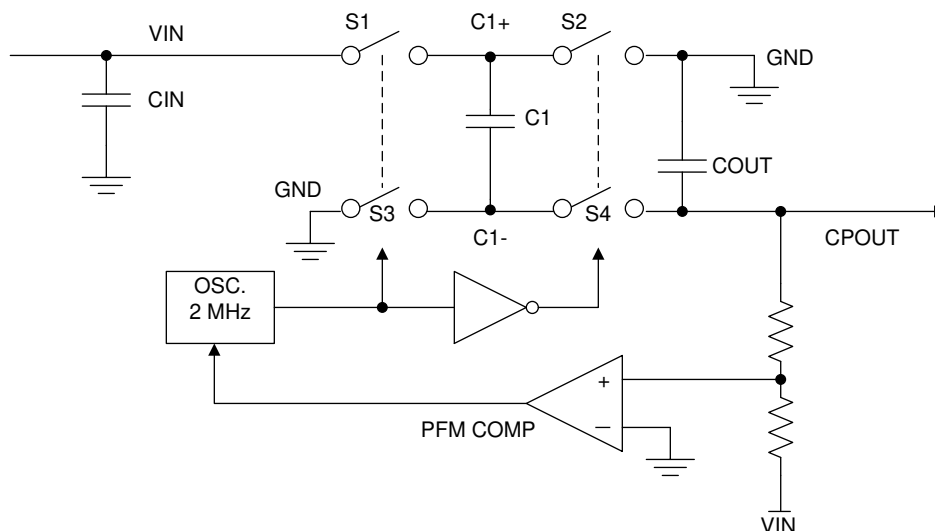

Figure 7-2. Voltage Inverting Principle
The voltage inverter portion of the LM27761 contains four large CMOS switches which are switched in sequence to invert the input supply voltage. Energy transfer and storage are provided by external capacitors. Figure 7-2 shows the voltage switches S2 and S4 are open. In the second time interval, S1 and S3 are open; at the same time, S2 and S4 are closed, and C1 is charging C3. After a number of cycles, the voltage across C3 is pumped into V_{IN} . Because the anode of C3 is connected to ground, the output at the cathode of C3 equals $-(V_{IN})$ when there is no load current. When a load is added the output voltage drop is determined by the parasitic resistance ($R_{DS(on)}$ of the MOSFET switches and the equivalent series resistance (ESR) of the capacitors) and the charge transfer loss between the capacitors.
- R_{SW} is the sum of the ON resistance of the internal MOSFET switches shown in Figure 7-2.